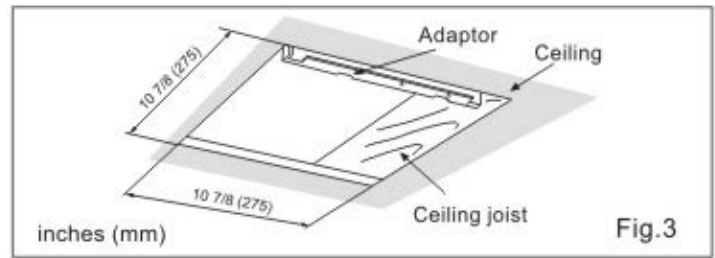

Fig.3
6. Cut out ceiling section. (Fig.3)
- Finish ceiling work and mount the grille to fan body. (Fig.3 of page 7, Fig.9 of page 8)
- (2) Inspect duct work and wiring before proceeding with installation.
- (3) Plan suitable location for ventilating fan. (next to ceiling joist)
- (4) Before installation, provide inspection and maintenance access at a location that will not interfere with installation work shown in installation IV.
- (5) First, remove ceiling section according to Fig.3 of page 7.
- (6) Install ventilating fan.
- (1) Inspect duct work and wiring before proceeding with installation.
- (2) Remove ceiling section according to Fig.3 of page 7.
- (3) Install ventilating fan.